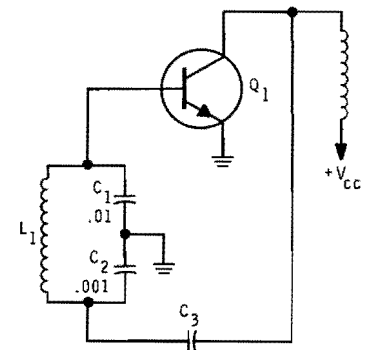

Figure 5-29
19. (DC) Hartley oscillators use a tapped coil to obtain positive feedback. Positive feedback is also possible if tapped capacitors are used in the feedback loop, as shown in Figure 5-29. The tapped capacitors identify this as a \_\_\_\_\_ oscillator.
20. (Colpitts) In the Colpitts oscillator of Figure 5-29, capacitors  $C_1$  and  $C_2$  function as a voltage-divider network developing the necessary positive feedback. The tuned circuit, however, sees the electrical equivalent of the \_\_\_\_\_-connected capacitors.
23. ( $C_2$ ) Feedback factor (B) is expressed algebraically by the formula  $B = C_2/C_1$ . The feedback factor for the Colpitts oscillator in Figure 5-29 is \_\_\_\_\_.